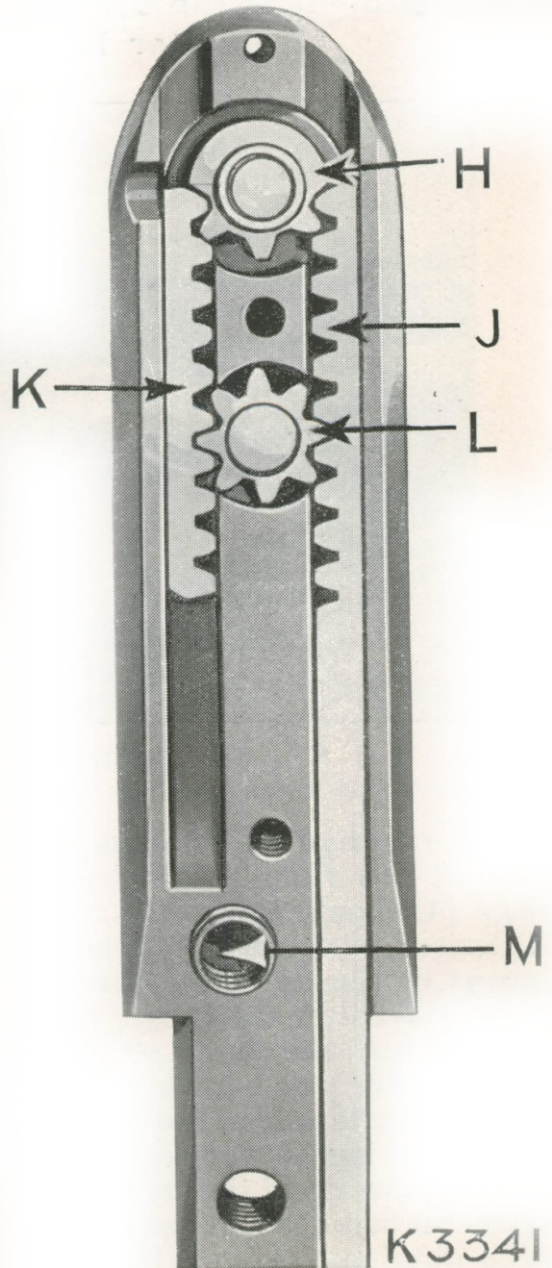
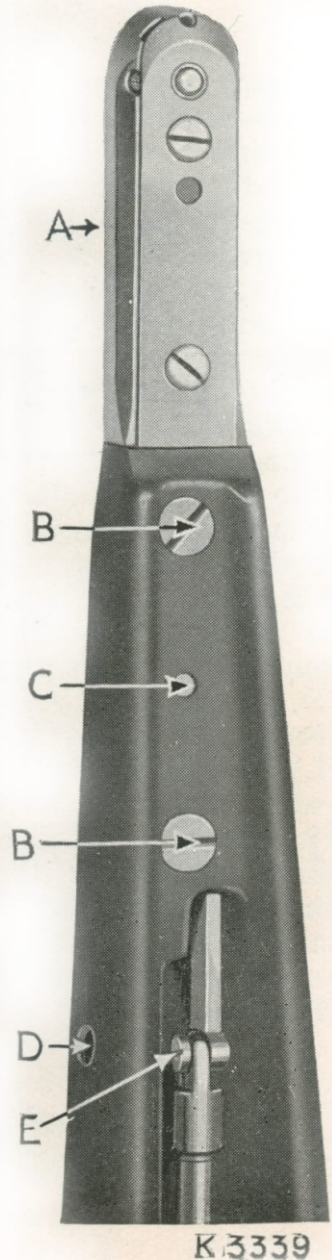

Fig. 19.
Fig. 20.
Remove the machine head from the treadle stand or power bench by taking out the four screws. The machine head should now be tipped up and supported with the horn in a vertical position, the underside facing the adjuster. Parts can be examined or removed from the rack box by taking out the two screws (F) and removing the cover plate. The following parts are then exposed: long rack (J), short rack (K), intermediate pinion (L), shuttle driving pinion (H), needle plate locating pin and spring (M), all of which can be removed without disconnecting the rack box from the machine. To take out the shuttle carrier, remove the small set screw in the shuttle carrier pinion by inserting a small screw driver through the groove (G) at the side of the rack box. The shuttle carrier can then be pressed through the pinion. To remove the long rack, insert a screw driver through the hole (D, fig. 20) and take out the screw. Before proceeding to withdraw the rack, remove the pinion (L), then grip the rack and draw it in a straight-away manner towards the pulley end of the machine. The short rack (K) and shuttle driving pinion (H) can be removed without difficulty. When replacing any one or re-assembling the whole of these parts, care must be taken to see that the gears and racks are correctly enmeshed, as shown in the illustration (Fig. 19).
(See Fig. 20)